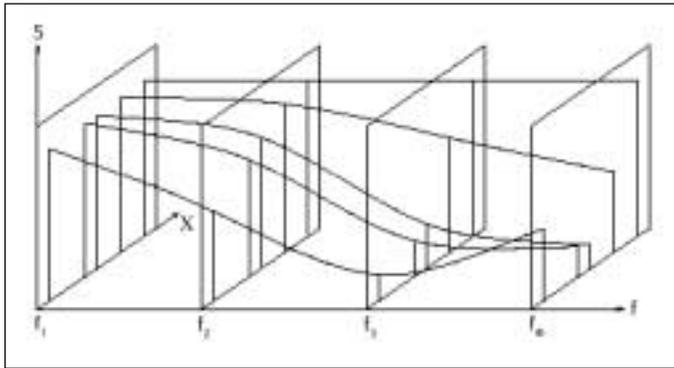

Figure 2. AFS rational models over the desired frequency range, derived from full-wave EM simulation.
1. The frequency response of the circuit is calculated at a number of discrete sample points using a full-wave EM simulator. Using adaptive frequency sampling (AFS), a set of frequencies is selected and a rational model for the S-parameters over the desired frequency range is built (see Figure 2).